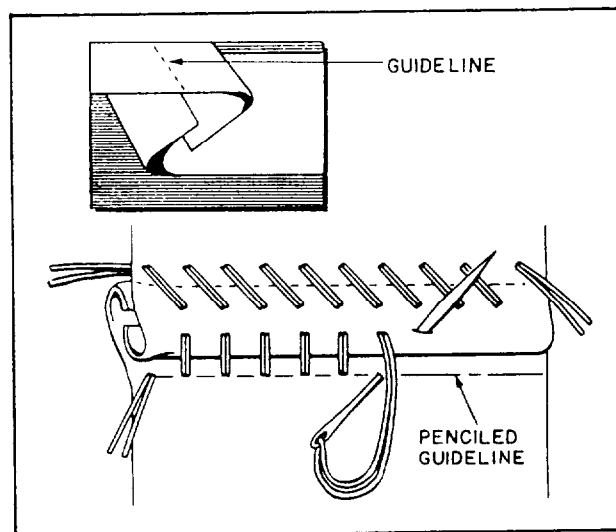

Figure 3-35.-Flat stitch.
- **Flat stitch:** A flat stitch is used when a strong seam is required, as on a paulin or a sail. Pencil a guideline 1 1/2 or 2 inches from the edge of each strip of canvas, depending on how wide you want the seam. Crease each piece on a line slightly less than halfway to the guideline. Make the folds away from the guidelines and interlock the folds away from the guidelines and interlock the folds (fig. 3-35). Interlocking the edges forms a watertight seam and keeps a ragged edge from showing. Insert the needle at the guideline, and stitch diagonally so that stitches appear at right angles to the seam on top but run at an angle on the reverse side. After completing one edge, turn the canvas over and sew the other edge of the seam. Flat stitching also is used for patching.